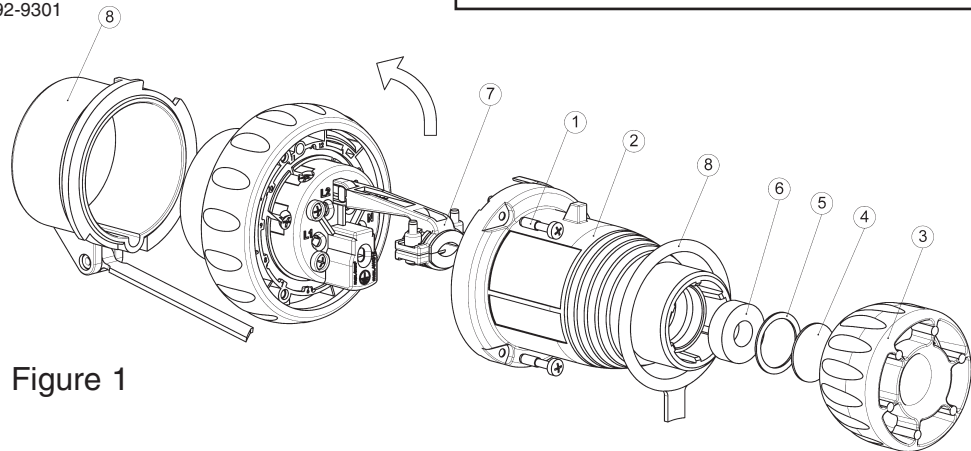

Figure 1
Referring to Figure 1 above, loosen screws ① and remove the plug housing ②. Then unscrew the compression collar ③ and remove the close-up disc ④ and discard it. Then remove the friction washer ⑤ and grommet ⑥.